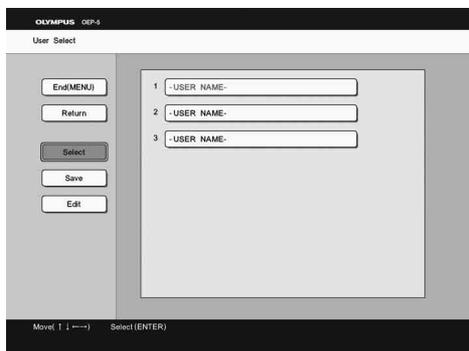

Figure 5.2
- 2 Be sure the cursor points to “USER PRESET.” Press the “ENTER” button to display the “USER PRESET” menu (see Figure 5.2).